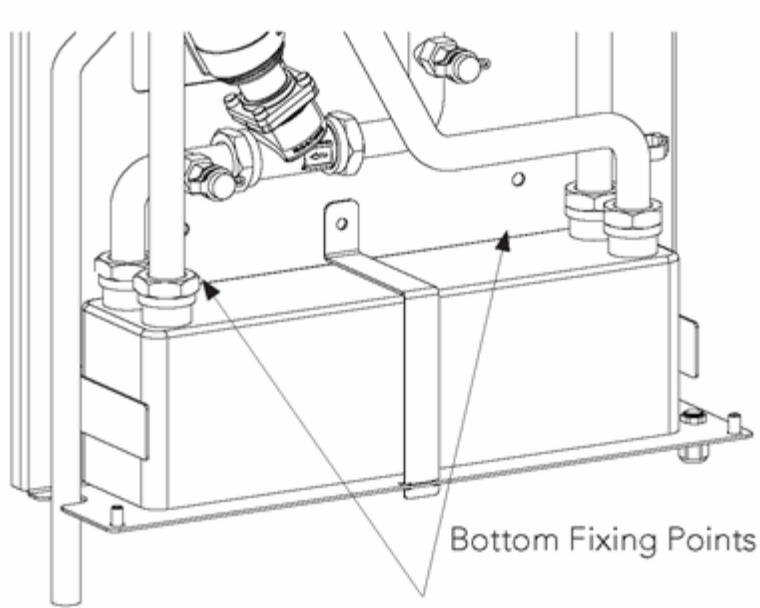

Fig 10. HI-MAX STORE - Bottom Support Fixing Points
3. Mark out and drill the bottom fixing points and use suitable fixings for the mounting surface (see Fig 10).